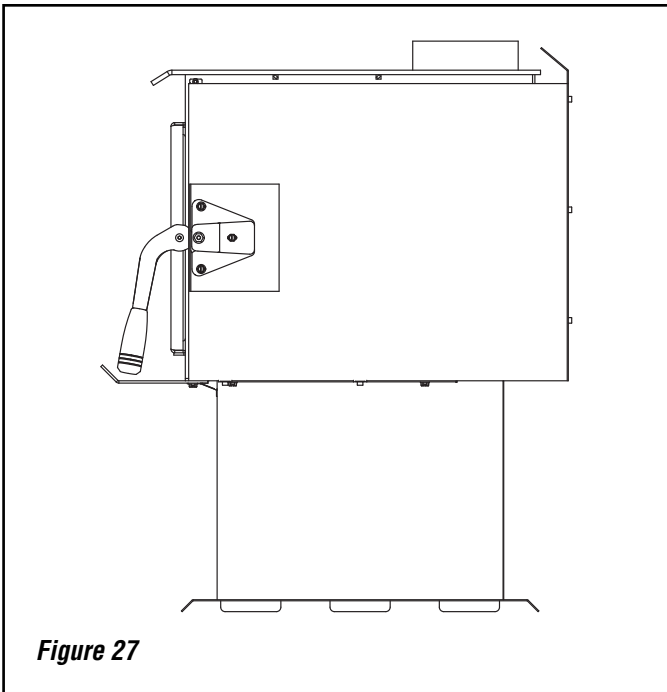

Figure 27
Step 1. Carefully remove the baffle blankets and baffle boards (see **Figure 27**).